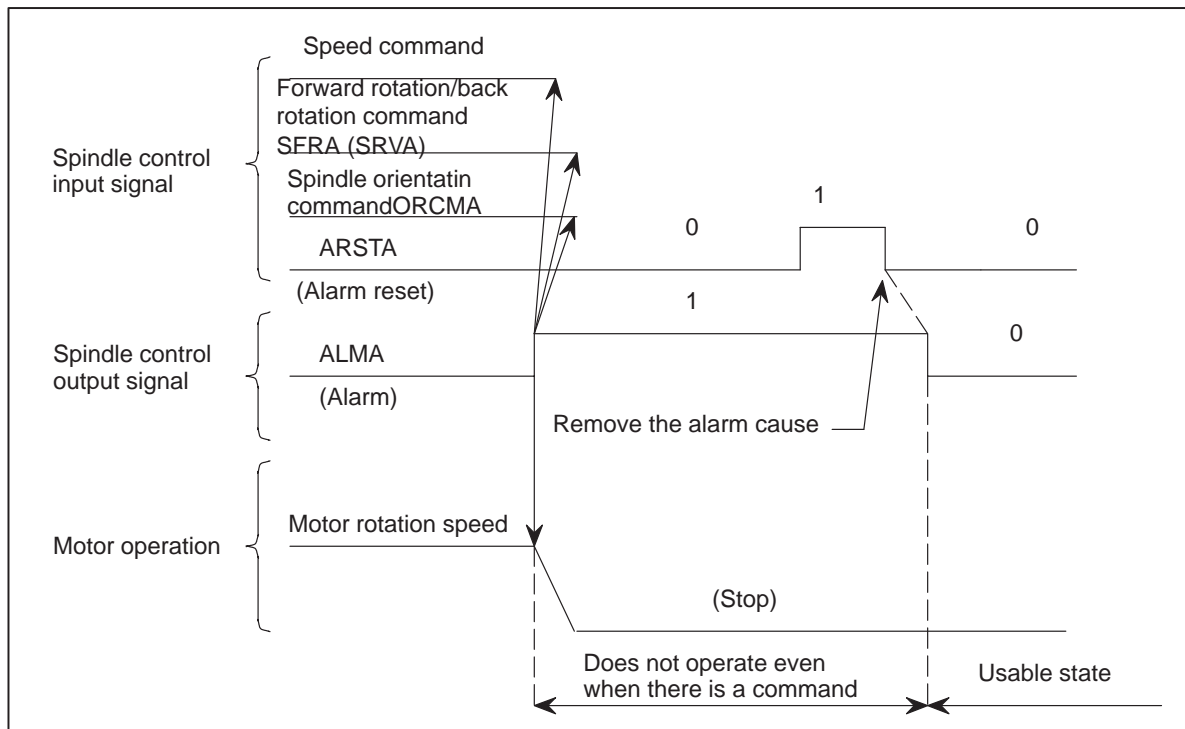

Fig.10.2.9 Timing Chart of the Spindle Alarm Signal
- The relationship between the alarm signal and the alarm reset signal is as shown in Fig. 10.2.9.